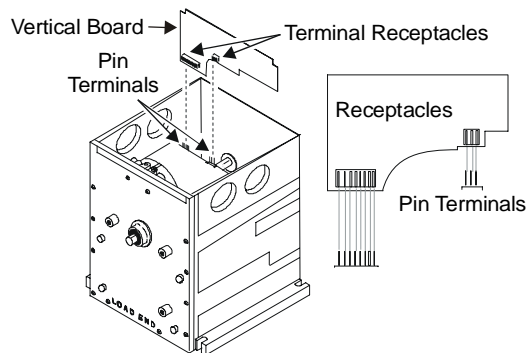

Figure 3: Installing the Vertical Board
3. Install the vertical board, carefully placing the terminal receptacles onto the two sets of pin terminals so all pins are aligned. (See Figure 3.)